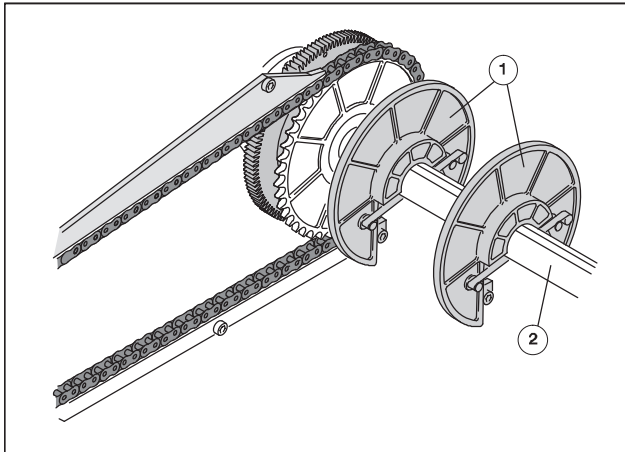

Fig. 16 Removing the guide pulleys
1. Remove the guide pulleys (Fig. 16/1) from the sprocket wheel shaft (Fig. 16/2).
2. Remove any dirt from the shaft (Fig. 16/2).